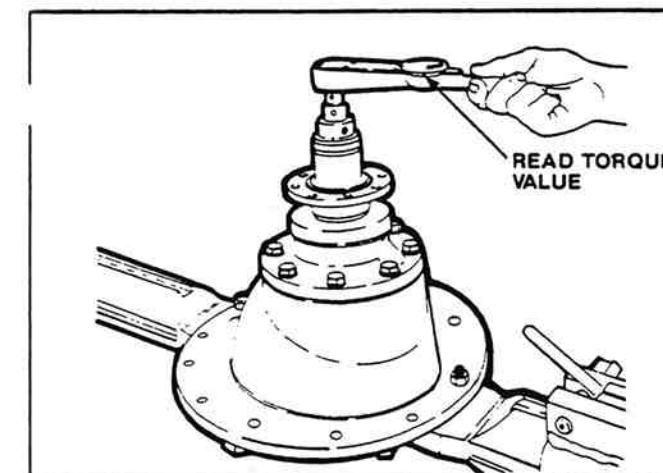

Figure 2-49. Reading Drive Pinion Torque.
- Attach a torque wrench on the drive pinion nut. Rotate the drive pinion and read the value indicated on torque wrench (Figure 2-49).